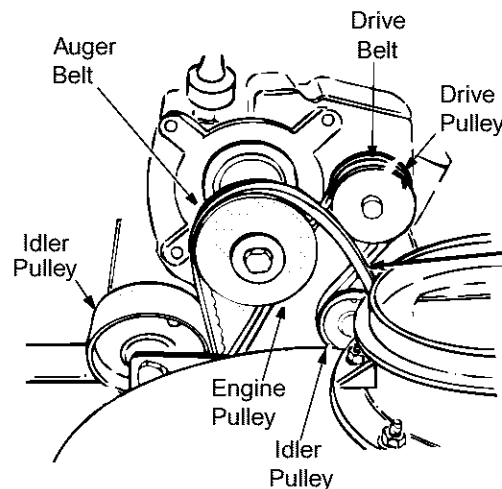

Figure 13
4. Roll auger belt off engine pulley. See Figure 13.
- Lift the auger belt from the auger pulley, and slip belt between the support bracket and the auger pulley. See Figure 13.
- Pull idler pulley up, and lift belt off engine pulley and friction wheel disc. See Figure 13.